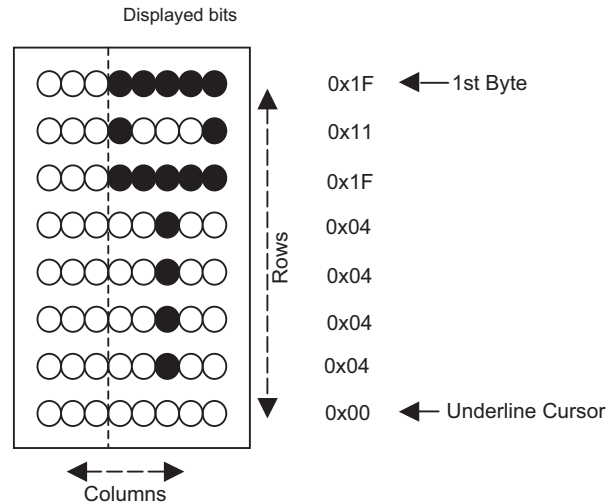

Figure 4. Construction Pattern for a Sample Character
2. The HD44780 controller's CGRAM can hold a maximum of 64 bytes, which limits the number of characters to 8. Figure 4 displays a construction pattern for a sample character. The character is formed using 7 rows containing 5 pixels each. The bottom row represents the underline cursor.